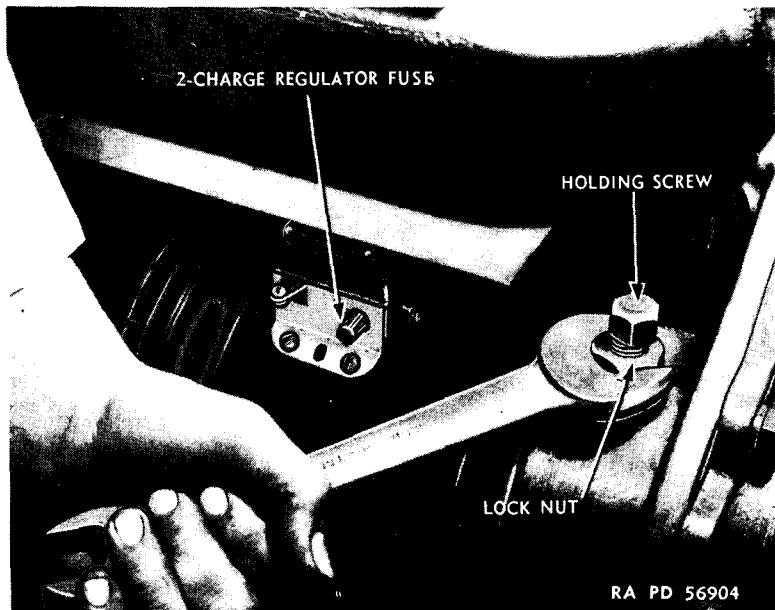

Figure 62—Loosening Battery-Charging Generator Holding Screw
(1) REMOVE GUARD PLATE (fig. 47). Loosen lock nut on holding cap screw (fig. 62) that goes through generator housing to secure generator in place. Loosen cap screw. Turn generator until the regulator is at the front, and the cap screws holding the metal guard are accessible. Remove cap screws attaching guard to cylinder chamber cover plate and the engine.
(2) REMOVE GENERATOR. Take out screw that holds lead to the 2-charge regulator. The loosened generator will now be removed.